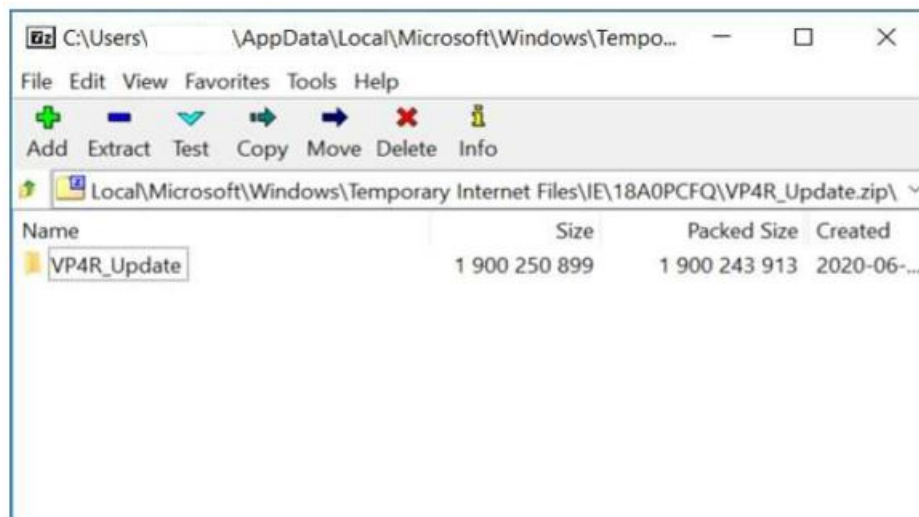

Fig. 4
8. Unzip the file to the root folder of USB flash drive. File should not be within a zip folder. Your USB file should look like (Fig. 4) when you open it.